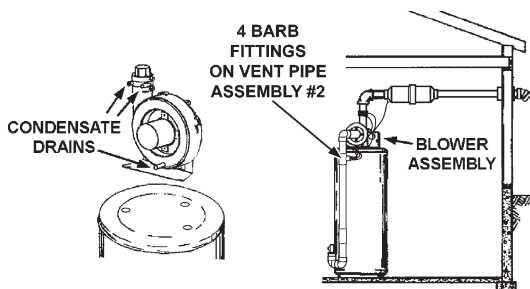

FIGURE 17.
3. The blower discharge adapter is made to accept only straight sections of 2" pipe. To start, a minimum of 2 inches (5.1 cm) of 2" pipe must be attached to the blower discharge, see Figure 17.
4. There will be some installations where condensate will be formed in the horizontal runs of the vent system. This condensate will run into the condensate boot attached to the blower and out the fitting. The water heater is shipped with condensate hose that attaches to the fitting on the condensate boot. No other Tee or fitting is required. See Figures 17, 20 and 21.
This water heater is a condensing unit and requires a drain to be located in close proximity to allow condensate to drain safely. One hose from blower housing, two flexible hoses from blower outlet adaptor, along with another flexible hose from VAA if installed, run to barb fittings on vent pipe assembly #2. Hose is clamped by rubber clips and flexible hoses by a clamp on jacket top cover. See Figure 17. Condensate drains from the unit at the exhaust tee located at the bottom of the unit (see figure 16). Condensate from this water heater is mildly acidic. Please note that some local codes require that condensate is treated by using a pH neutralizing filter prior to disposal.
Condensate is likely to form in the venting system attached to this water heater. The vent pipe should be sloped downward away from the blower assembly (not less than 1/8" (3.2 mm) nor greater than 1/2" (12.7 mm) per foot (30 cm) maximum). If the vent piping is vented level or sloped upwards away from the blower assembly, then adequate means for draining and disposing of the condensate needs to be made by the installer. Two 3/8" condensate hoses should be connected to the built in drain ports of blower outlet adaptor. If a VAA is installed, a 3/8" condensate hose should be connected to the barb fitting on it; otherwise the unused barb fitting on vent pipe assembly #2 should be plugged with one of the break-away plugs. See Figure 17.
3. Condensate drains from three locations on blower assembly. See Figure 17. One flexible hose runs from bottom of blower housing; two run from the ports of rubber connector at the outlet of blower. All these three condensate hoses are connected to barb fittings at vent pipe assembly #2. The hose from bottom of blower housing is clamped by two clamps and the two hoses from rubber connector are harnessed by another clamp. Make sure there is no kink or twist.